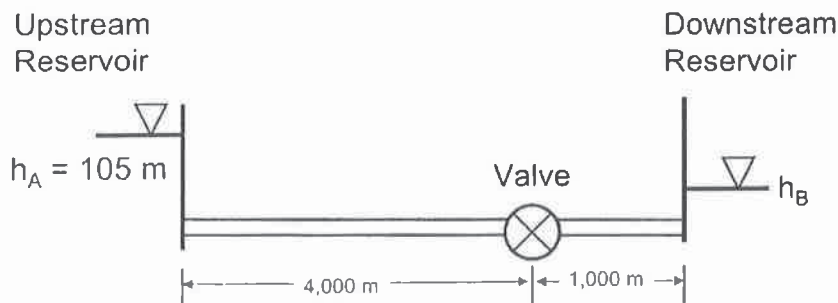

Figure 1. Reservoir-pipe system with valve.
3. An elevated tank with a fixed water level of 71 m supplies water to the distribution network shown in Figure 1. The network has 5 pipes with the following parameters: Length = 420 m, Hazen-Williams 'C' factor = 117, and